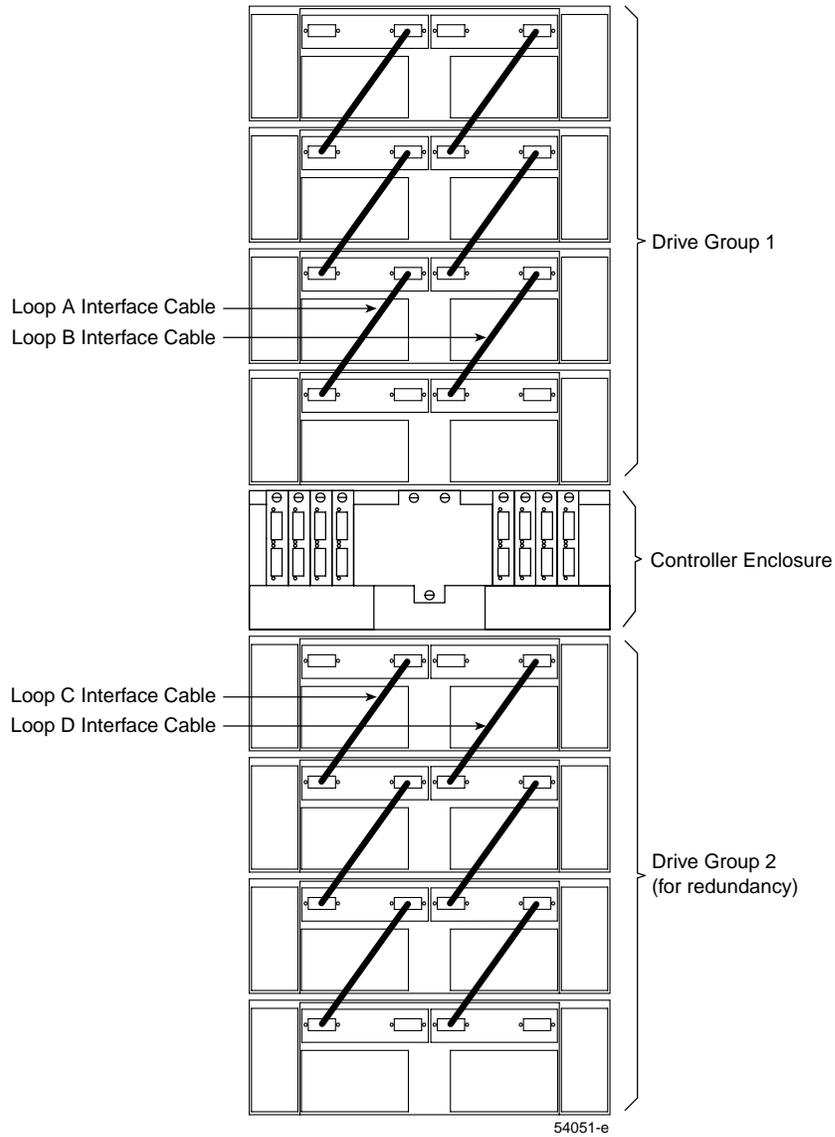

Figure 8-3 Connecting a Second Redundant Drive Loop
- Repeat step 1 through step 3 to cable a second drive group in the same manner (Loop C and Loop D on Drive Group 2) (Figure 8-3).